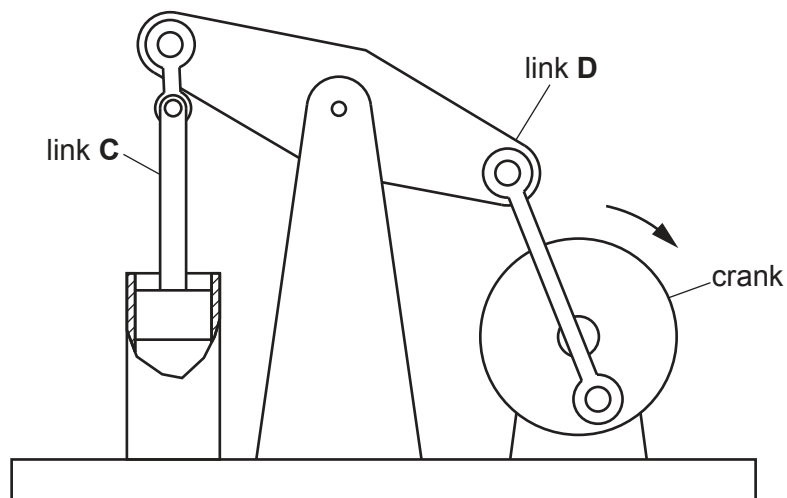

Fig. 5.1
- 5 Fig. 5.1 shows a mechanism made up of different linkages.